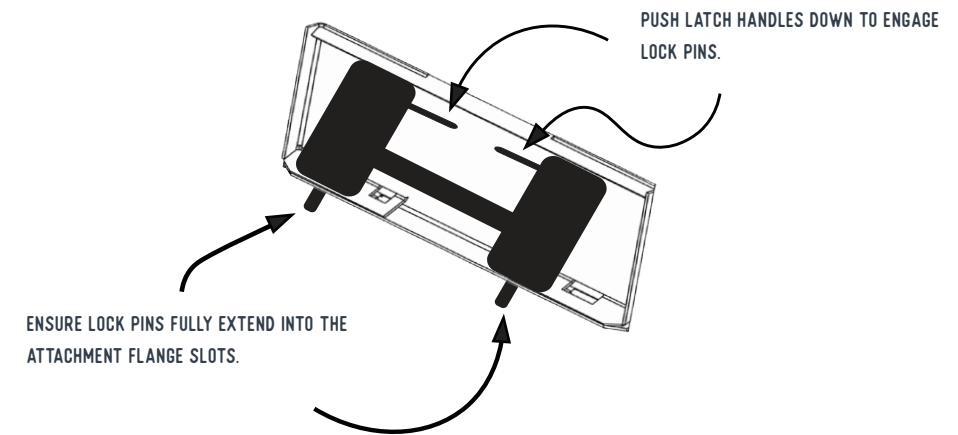

FIGURE 2.2B QUICK ATTACH MECHANISM LOCKED TO ATTACHMENT PLATE
5. Push the skid loader quick attach locking levers down until you can see the coupler pins extend into the slots on the attachment bracket. (See Figure 2.2b on right)